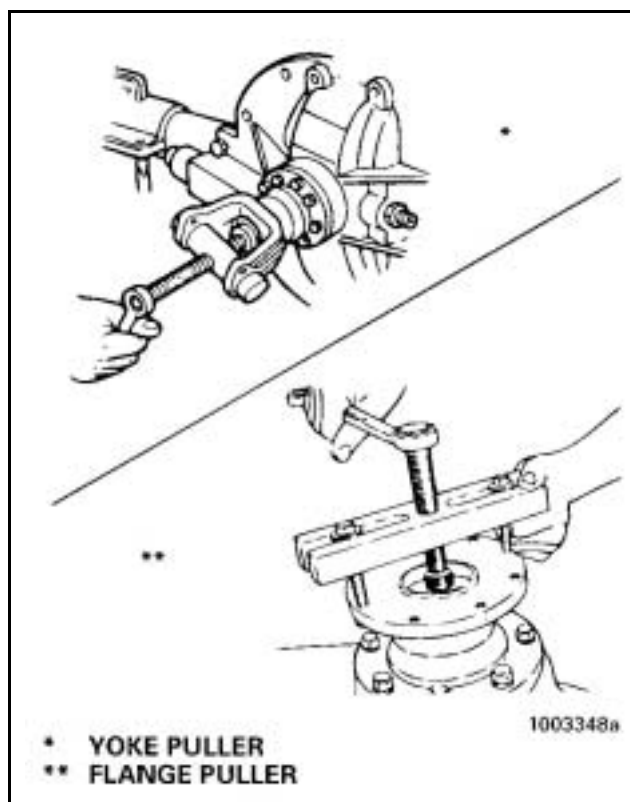

Figure 23
4. Remove the yoke or flange from the drive pinion. If the yoke or flange is tight on the pinion, use a puller for removal. **Figure 23.**